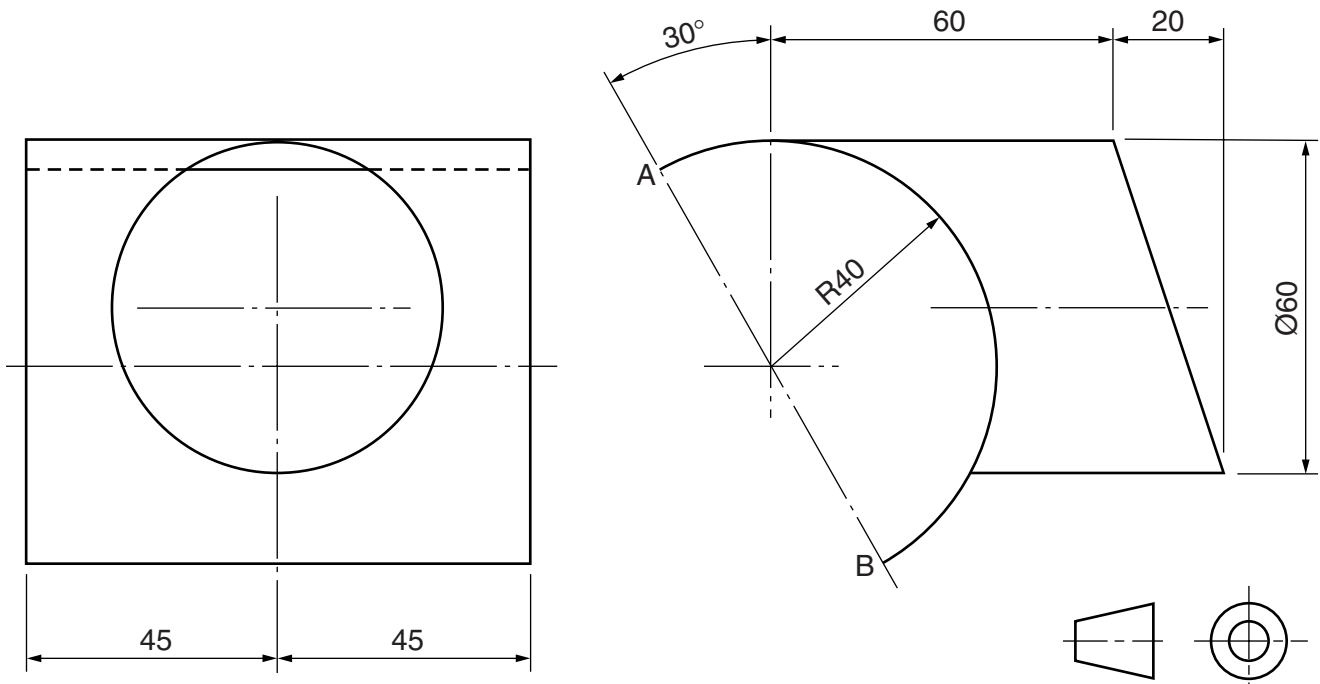

Fig. 6
- 6 Fig. 6 shows details of a cylindrical pipe intersecting a semi-circular piece. Ignoring the thickness of the material.